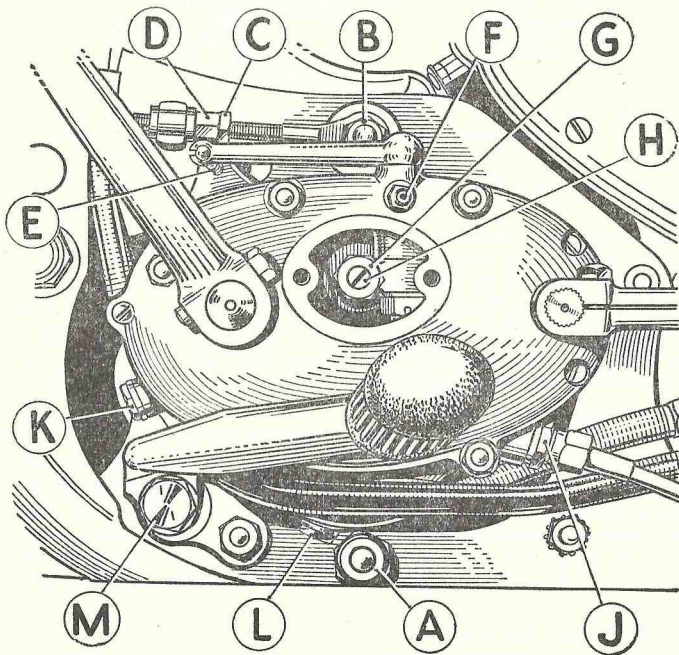

Fig. 11. Clutch and Front Chain Adjustment.
Adjustment of the primary chain is effected by pivoting the gearbox about its lower support bolt. The chain is correctly adjusted when it has $\frac{1}{2}$ in. total up and down movement in the centre of the chain span and at its tightest point. This can be gauged by removing the primary chain case inspection cover and moving the chain up and down. Make sure that the chain is at its tightest spot. If the chain requires adjustment slacken the two nuts (A) and (B), Fig. 11. Slacken the locknut (C) and screw the adjuster (D) backwards or forwards as necessary until the adjustment is correct. Tighten the locknut (C) and the two clamping nuts (A) and (B), then recheck the adjustment. Whenever the primary chain adjustment has been altered, the rear chain must be re-adjusted (see page 35).
The main clutch adjustment is inside the inspection cover on the gearbox. Remove the two screws and lift the cover away. Slacken the locking nut (G) Fig. 11, to free the adjusting screw (H). The adjustment should be made so that when the clutch is fully withdrawn the lever on top of the cover is at right angles to the clutch push rod. This ensures that the minimum side thrust is imposed
When topping up with oil, remove the level plug at (K), Fig. 11, and pour oil in the clutch adjustment inspection cover. The oil level must not be above the plug hole, and if the gearbox is overfilled the surplus must be allowed to drain away before the plug is replaced. Removal of the plug (L) allows all the oil contained in the gearbox to drain out. Whenever possible the gearbox should be drained immediately after a run when the oil is warm. A mineral type of oil should be used, of the same grade as that specified for the engine (see page 24). The gearbox capacity is 14 fluid oz. (400 c.c.).